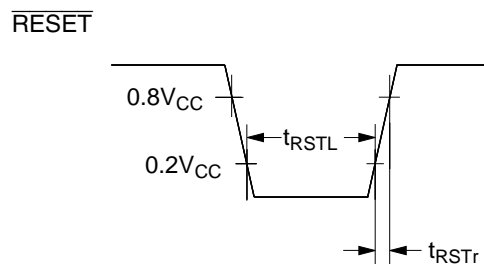

Figure 79 \overline{RESET} Timing
- Refer to figure 79.
4. Refer to figure 79.